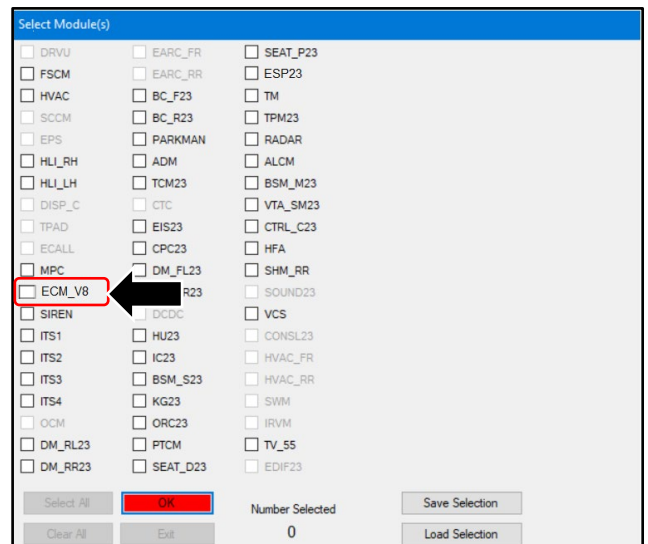

Figure 10
19. Select "ECM_V8" and click "OK" (refer to Figure 10).